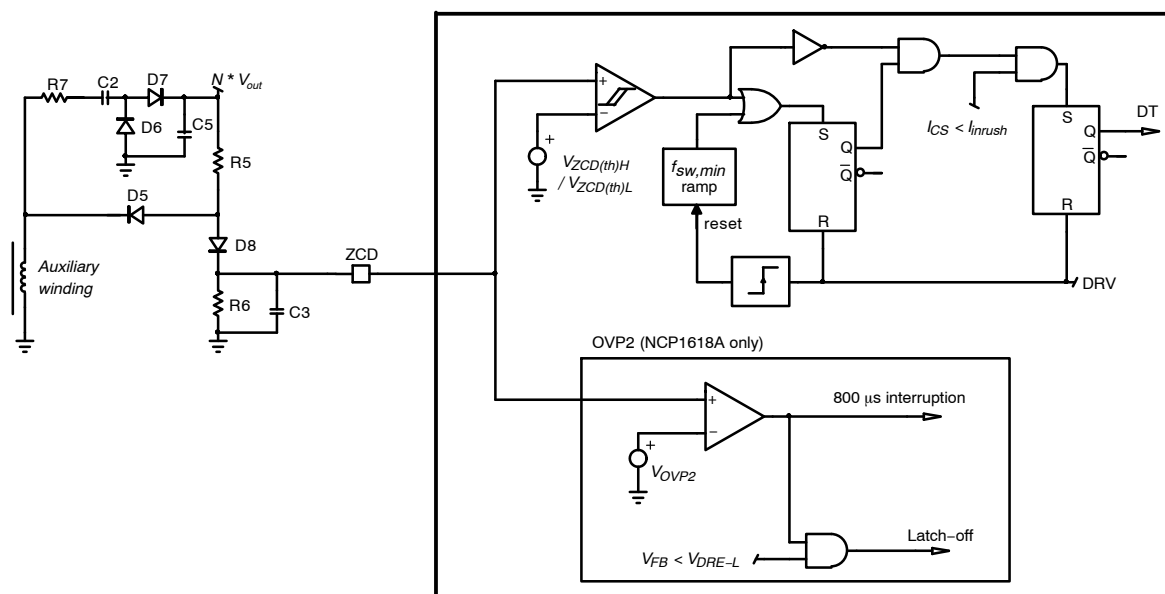

Figure 10. Zero Current Detection Block
Application note AND90011 discusses recommended circuitries for an accurate ZCD and OVP2 detections. Figure 10 provides one of these circuitries. In this circuit, R_7 being small, capacitor C_7 is charged to
Figure 10 shows how the NCP1618 detects the valley.
- The ZCD pin impedance (for instance R_3 of Figure 10), must be higher than 7.5 k Ω not to trigger the ZCD pin short-to-ground protection.
If no ZCD can be detected when the circuit operates in FCCrM mode, the circuit cannot use the valley detection to start a new current cycle. In this case, the next DRV pulse is forced by the DCM minimum frequency ramp ($f_{sw,min}$ ramp of Figure 10) which acts as a watchdog.
- If the pin is grounded, no falling edge of the auxiliary winding can be detected. The DRV remains off until the DCM minimum frequency ramp initiates a new cycle. Before the new pulse is generated, the circuit senses the pin impedance by sourcing 250 μ A. No DRV pulses are generated until the pin voltage exceeds V_{ZCDH} . Hence, the part is inhibited when the pin is grounded. Not to trigger this protection, the pin impedance (for instance R_3 of Figure 10, must be higher than 7.5 k Ω).